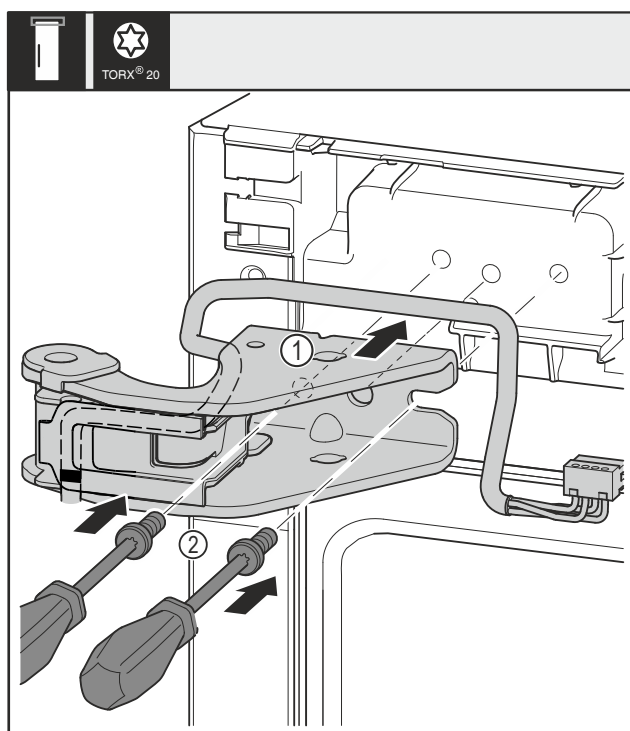

Fig. 20
- Place the top swap bearing block Fig. 20 (1).
- Use screwdriver to insert the screws Fig. 20 (2) and tighten them.